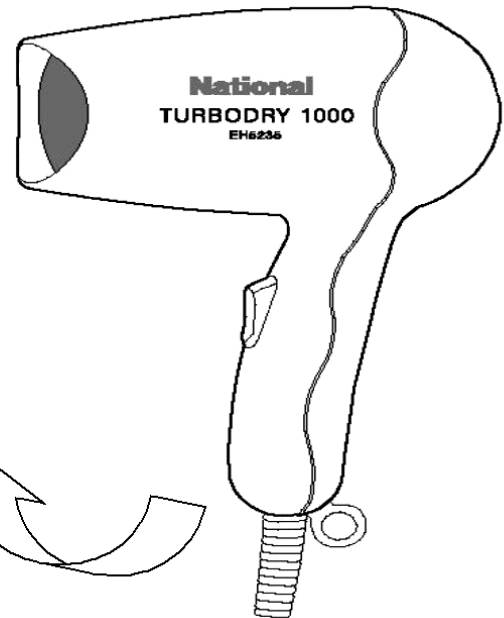

Figure 9
- (2) Remove hooks of front housing from back housing by rotating front housing clockwise direction as shown in Figure 9.